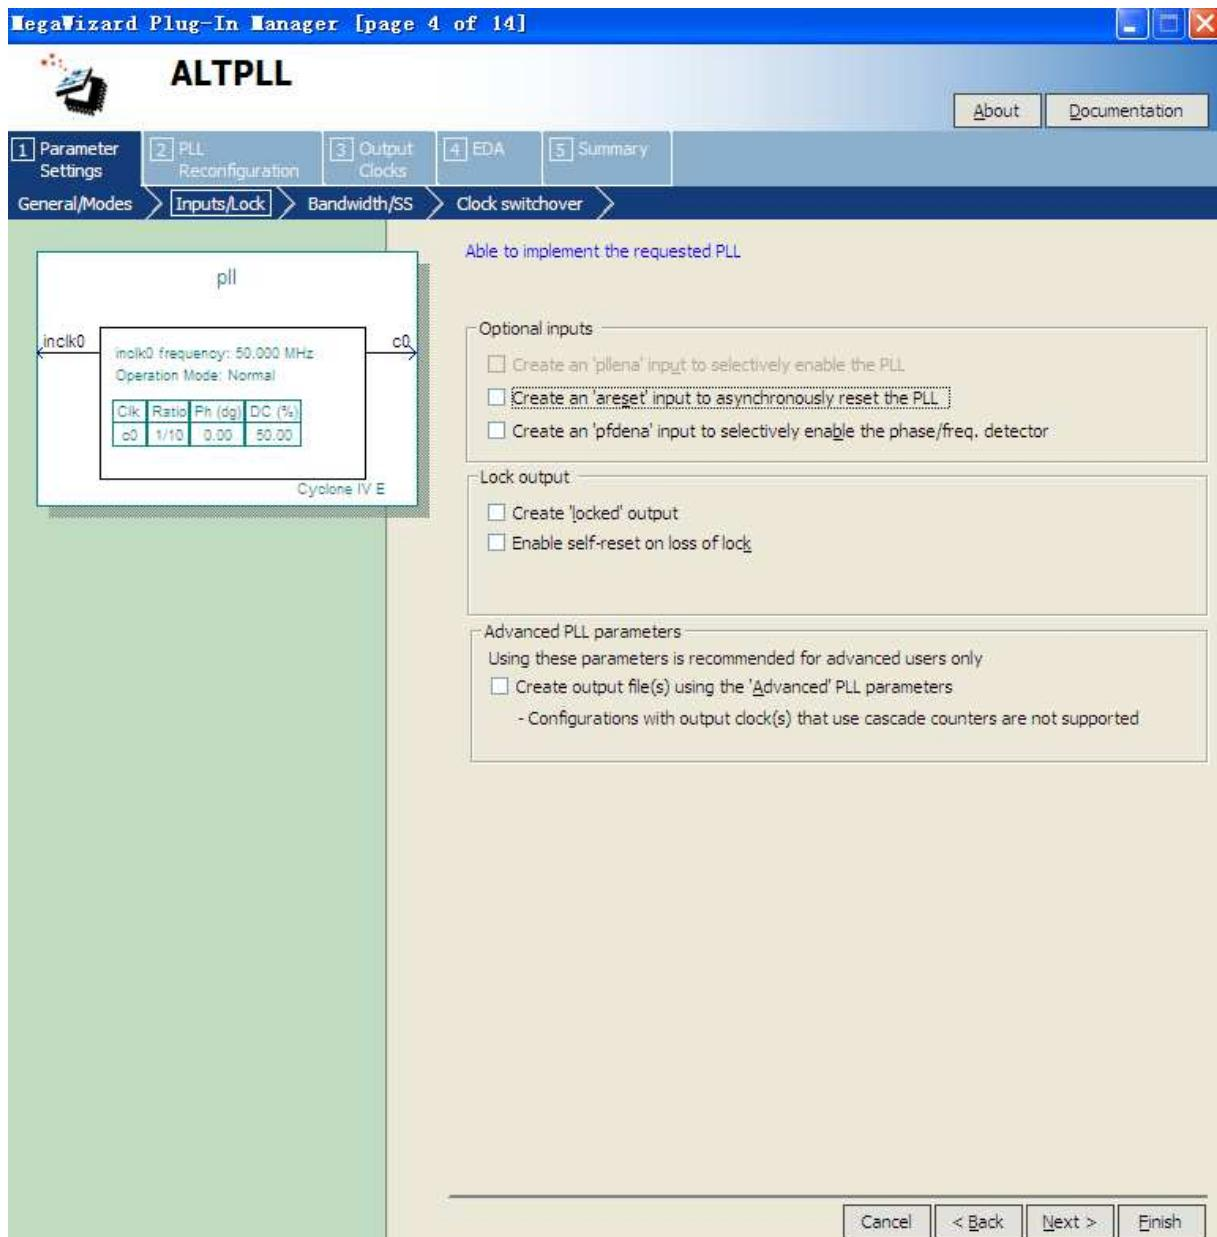

Figure 3-11 MegaWizard Plug-In Manager [page 4 of 14] Selections
6. Turn off all options on MegaWizard page 4. As you turn them off, pins disappear from the PLL block's graphical preview. See **Figure 3-11** for an example.